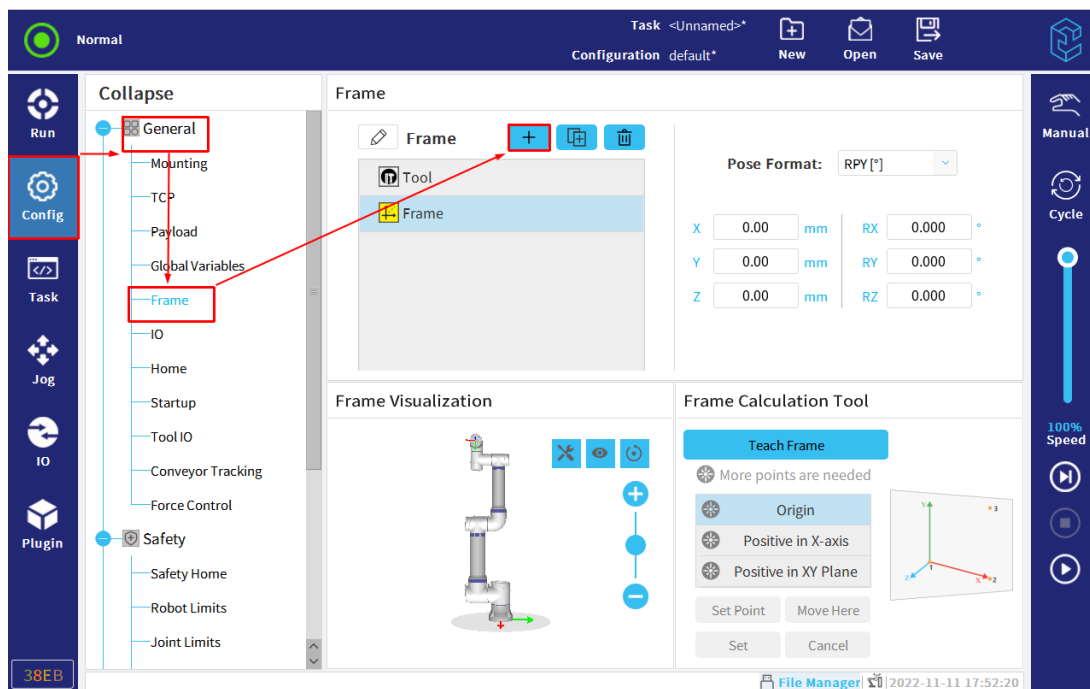

Figure 3-45 : Add frame
1. Click "Config > General > Frame", click  , as show in **Figure 3-45** .